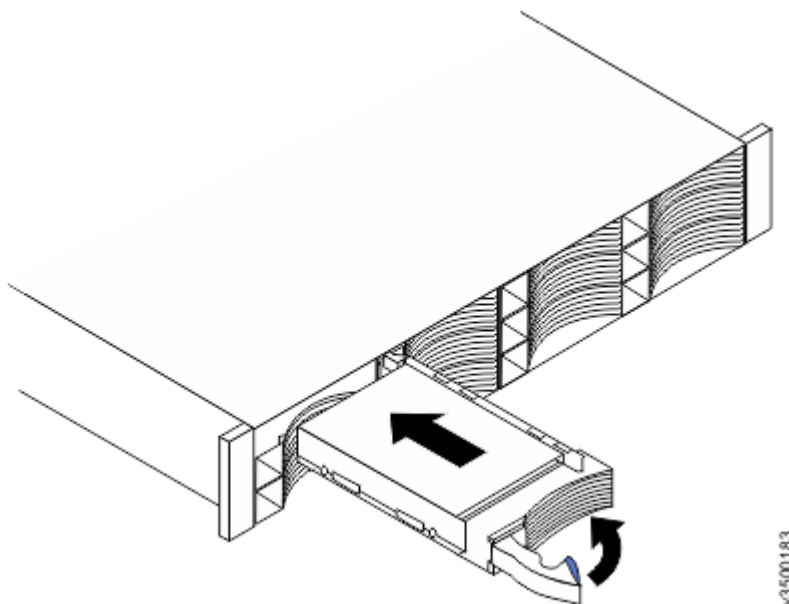

Figure 114. Installing and locking a 3.5-inch drive into its slot
13. Align the drive assembly with the guide rails in the bay (see Figure 114 on page 180).